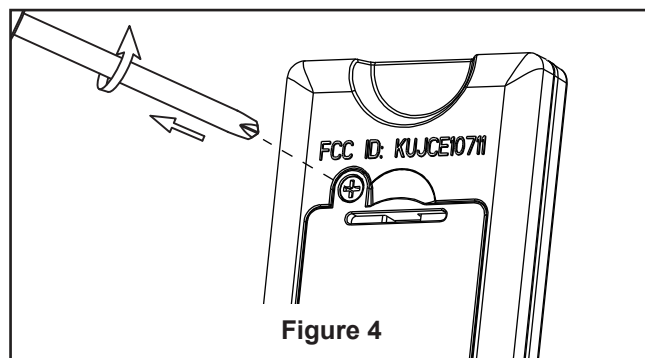

Figure 4
- ☐ 4. If you need to replace the batteries. Remove the battery cover from remote control by screwdriver and retain the screw for later. (Figure 4)